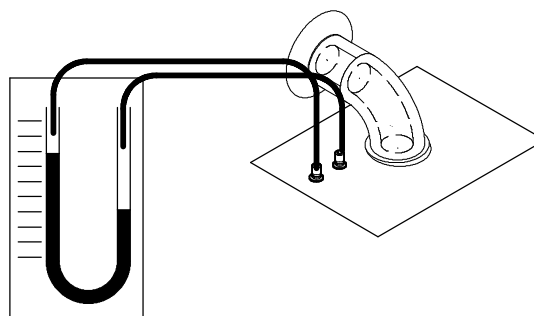

Fig. 69
- 1 Remove the caps of the pressure test points located on the top of the boiler and connect a differential pressure gauge (Fig. 69).